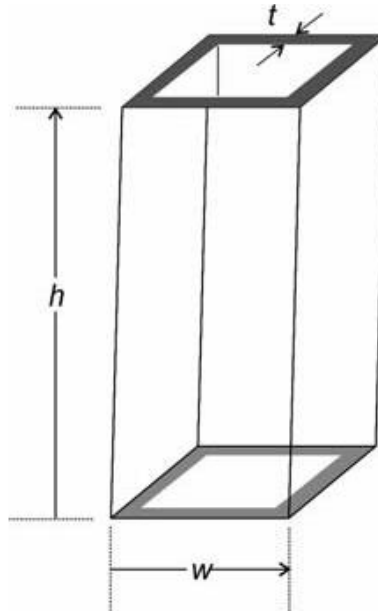

Figure 8: A piece of metal square tubing
- 4.1. Measure each of the dimensions of the hollow tube - **figure 8** - three times. Convert the measurements to S.I units and tabulate them. Calculate the average of each dimension. Tabulate these values and include a row for the average of each of the dimensions.